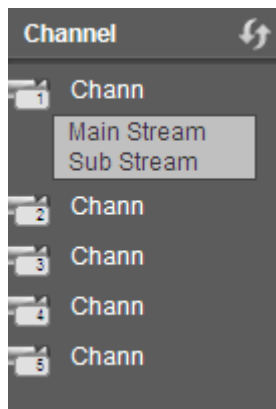

Figure 5-9
- Section 2: There are monitor channels successfully connected to the NVR. Please refer to Figure 5-9 for main stream and extra stream switch information.